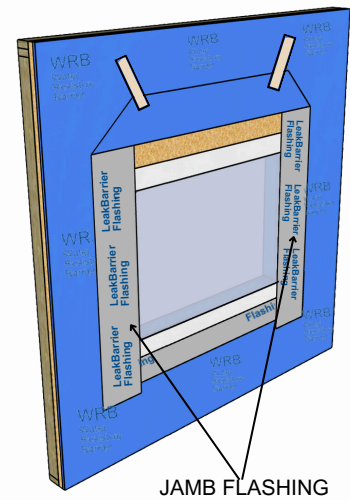

Figure 7: Install Head Flashing
- Apply window flashing over window head flange (Figure 7)